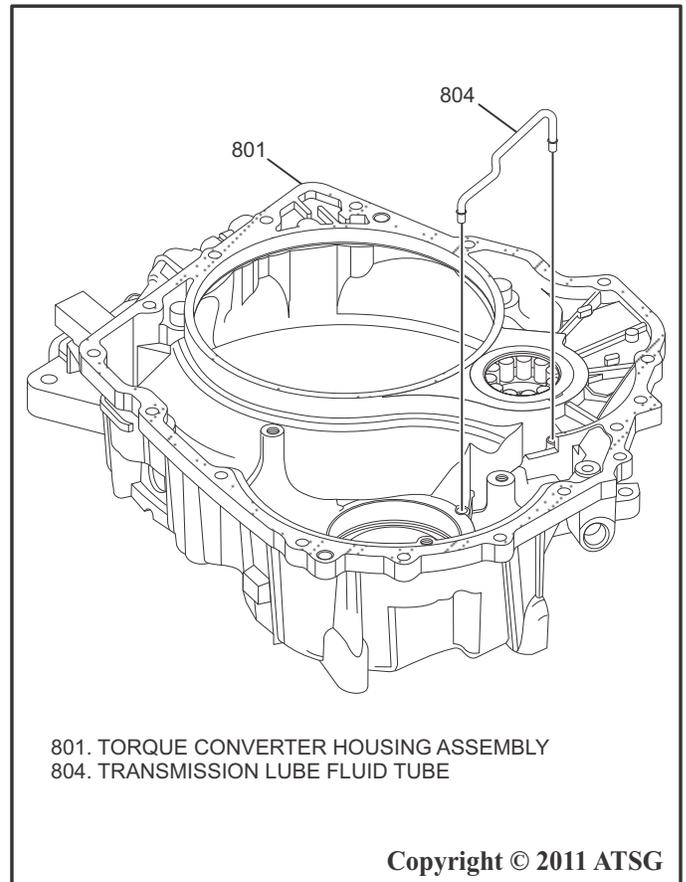

Figure 68
10. Carefully install the transmission lube fluid tube with a plastic hammer using care not to bend the tube as shown in Figure 68.